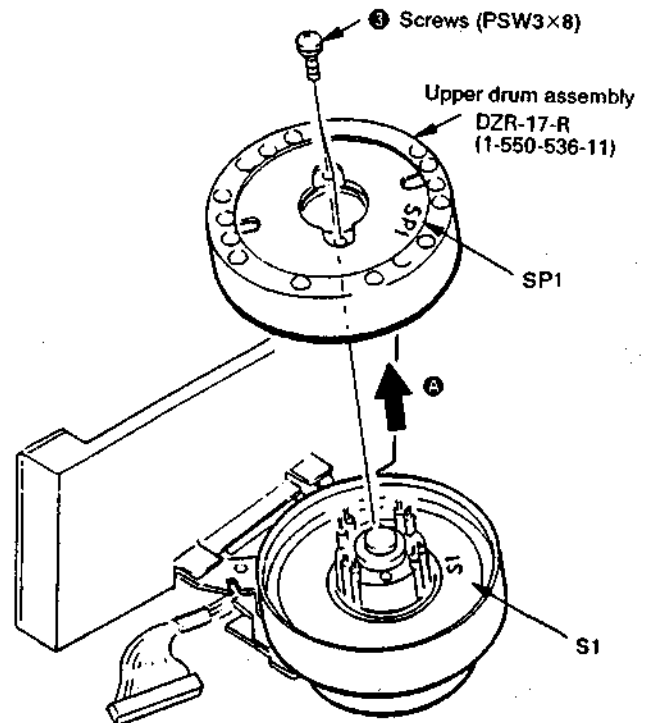

Fig. 5.
- 3) Remove two screws ③ (PSW3×8) and take out the rotary upper drum in the arrow direction ④. (See Fig. 5.)
- 2) Mount the rotary upper drum board by aligning SP1 with S1 of rotary transformer board (lower drum) so that the screw holes of both upper and lower drums match. (See Fig. 5.)
- 4) Tighten two screws ③ (PSW3×8). (See Fig. 5.)